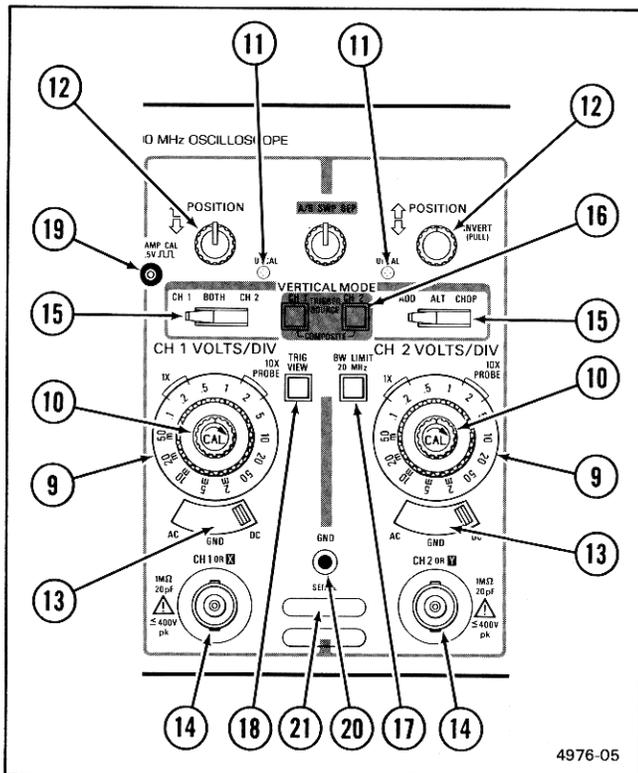

Figure 2-4. Vertical controls, connectors, and indicators.
Refer to Figure 2-4 for location of items 9 through 21.
- ⑨ **CH 1 VOLTS/DIV and CH 2 VOLTS/DIV Switches**—Used to select the vertical deflection factor in a 1-2-5 sequence. To obtain a calibrated deflection factor, the VOLTS/DIV variable control must be in the calibrated (CAL) detent (fully clockwise).